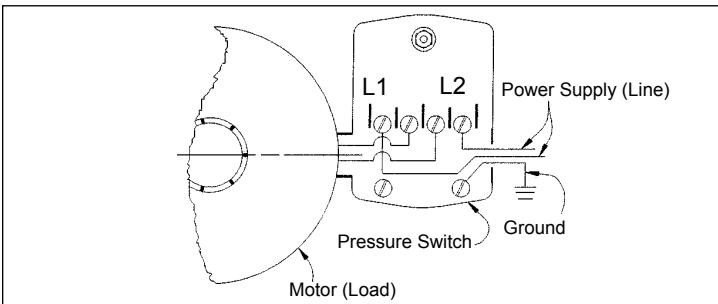

FIG. 2 - ELECTRICAL CONNECTIONS
- e) **Wiring:** An electrician should be employed to do the wiring and connect the electrical service to the pump. The pressure switch is wired to the motor at the factory and the voltage for which the motor is wired is indicated by a sticker on the back of the motor. Make sure the motor is wired for the same voltage as the power supply. Refer to the motor nameplate or inside terminal cover for voltage changing instructions. The power lines should be connected to the pressure switch terminals marked "line" (Fig. 2). It is recommended that a separate circuit be led from the distribution panel to the pump unit. A ground fault interrupter (GFI) protected circuit should be used for all electrical devices operating near water. Install a proper fused disconnect switch in the line and make certain the wiring is adequately sized and well insulated. **Undersized wire between the motor and the power source will adversely limit the starting and load carrying abilities of the motor.** Minimum wire sizes for motor branch circuits are recommended (see Table 2). For added safety, the pump and motor should be grounded to the well casing if metal or the ground in the distribution panel.